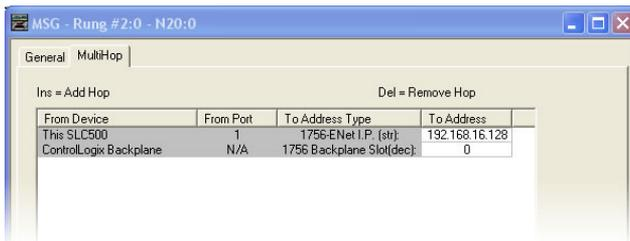

Figure 117: MSG Configuration, "MultiHop" Tab
- e) Under the “MultiHop” tab settings, set the “To Address” in the first row to the inverter’s IP address, and the “To Address” in the second row to 0. Refer to Figure 117.